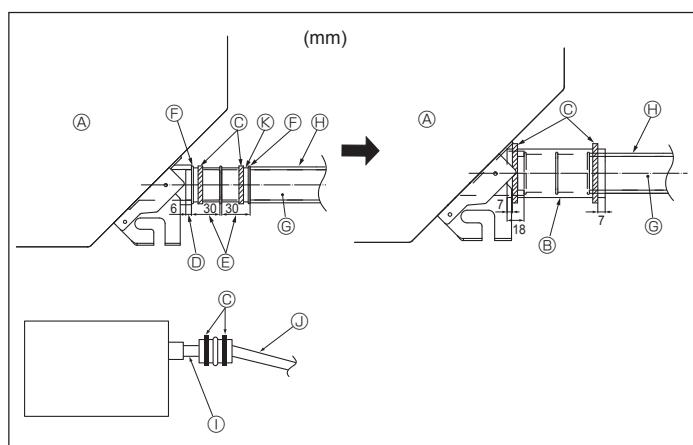

Fig. 3-2
- Connect the drain socket (supplied with the unit) to the drain port. (Fig. 3-2)